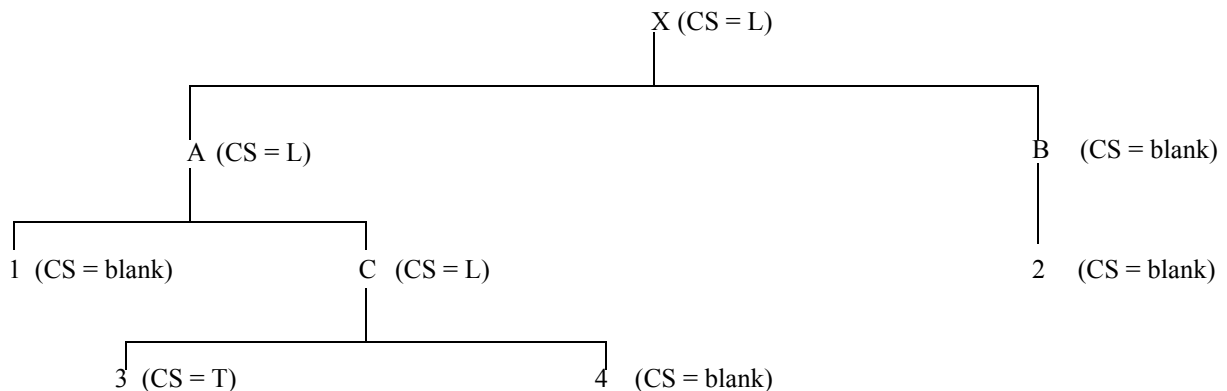

Figure 2-3. Cost Roll-up during Selective Costing
The Cost Status Code for each item is set during costing. The Cost Status Code of a component then affects the cost status of each parent during the roll up process and ultimately is reflected in the cost status of the item. In Figure 2-3 on page 2-26, the Cost Status Code of purchased item 3 is T because of missing cost elements. Cost Status Code L in item C indicates a lower level cost problem (incomplete costs for item 3). Likewise, Cost Status Code L for items A, C, and X indicates a lower level cost problem, due in this case to purchased item 3.